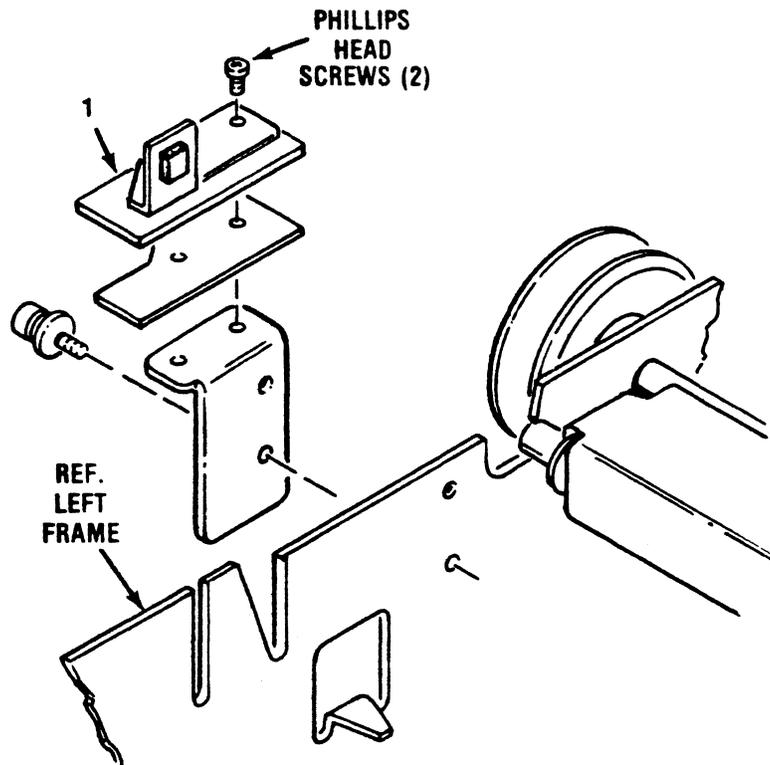

Figure 5-13. REMOVAL/REPLACEMENT, COVER INTERLOCK SWITCH
The cover interlock switch, item 1 of Figure 5-13, is attached to the left frame and is removed using a Phillips head screwdriver. To remove the cover interlock switch, refer to Figure 5-13 and perform the following steps: